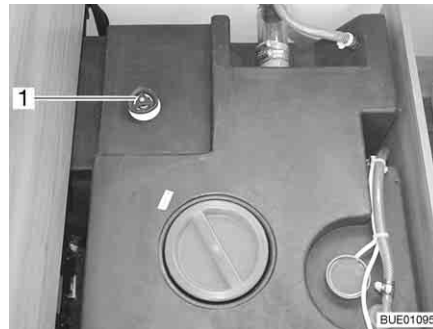

Fig. 208 Water tank with handle
- Turn the handle (Fig. 208,1) on the water tank in a clockwise direction as far as it will go.
- Turn the handle (Fig. 208,1) on the water tank in an anticlockwise direction as far as it will go. Excess water will drain away leaving 60 litres in the tank.